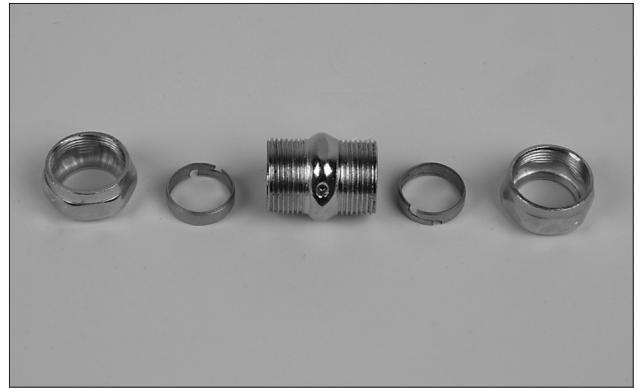

FIGURE 4-68
1. Remove rings from both ends of compression union. See Figure 4-68.